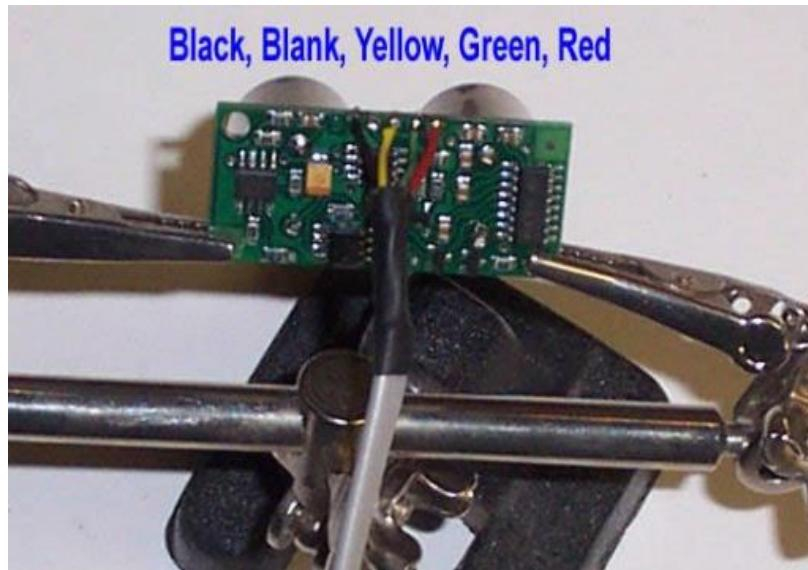

Figure 64: Devantech SRF08 Wire Arrangement
5. Slide a piece of heat shrink onto the wire and shrink it as shown in Figure 64.